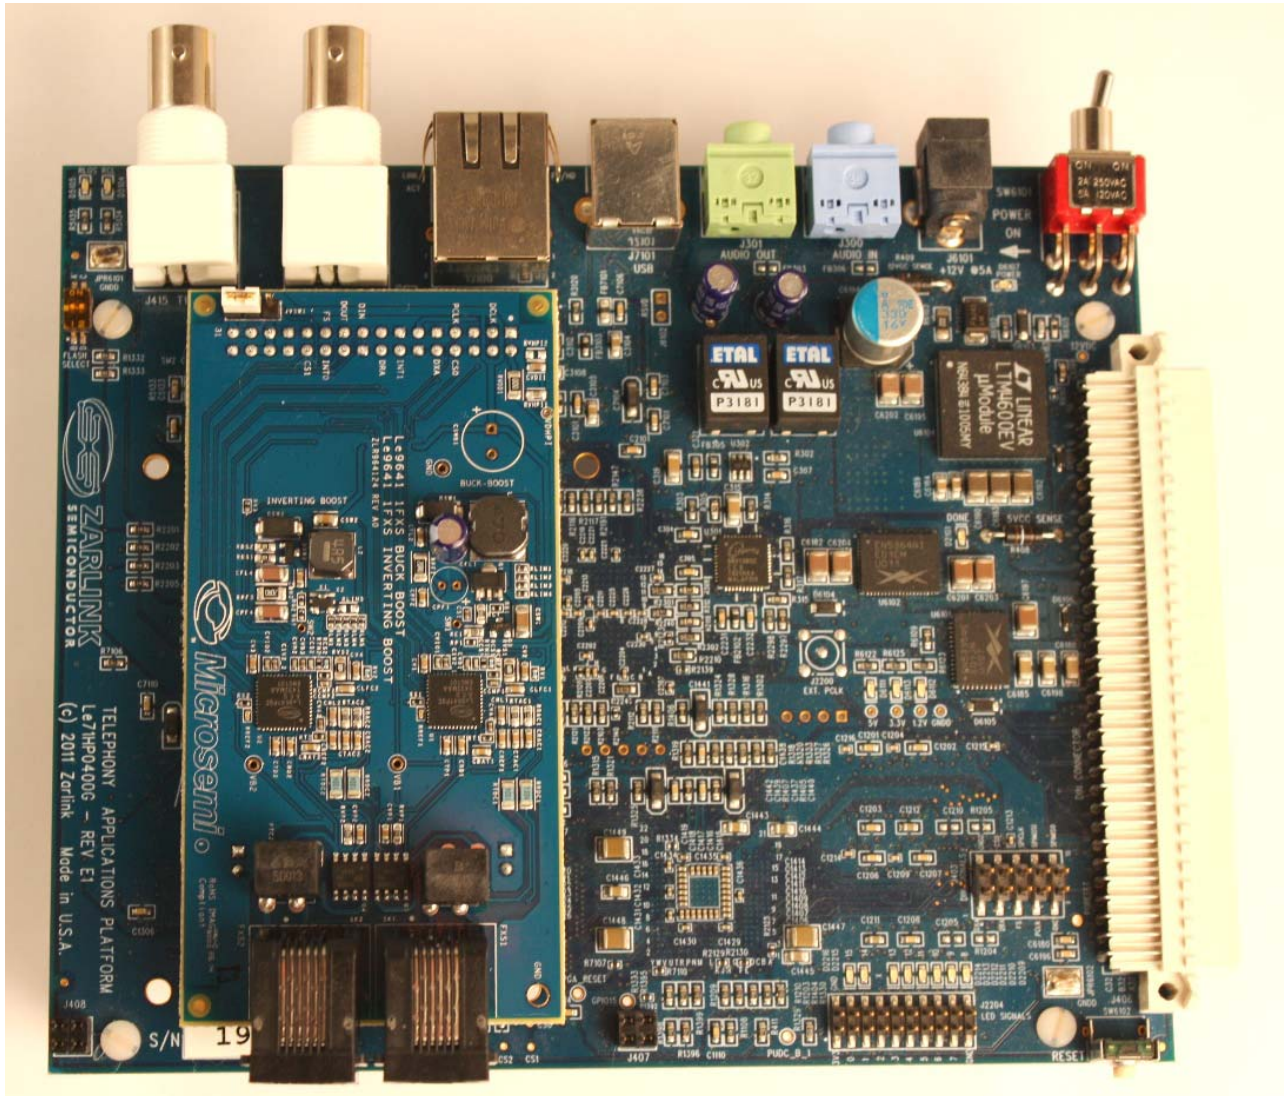

Figure 1 - ZTAP and ZLR964124 Line Module Setup
1. Assemble the components as shown in Figure 1 and connect a USB cable between the ZTAP's USB port (J7101) and a PC.